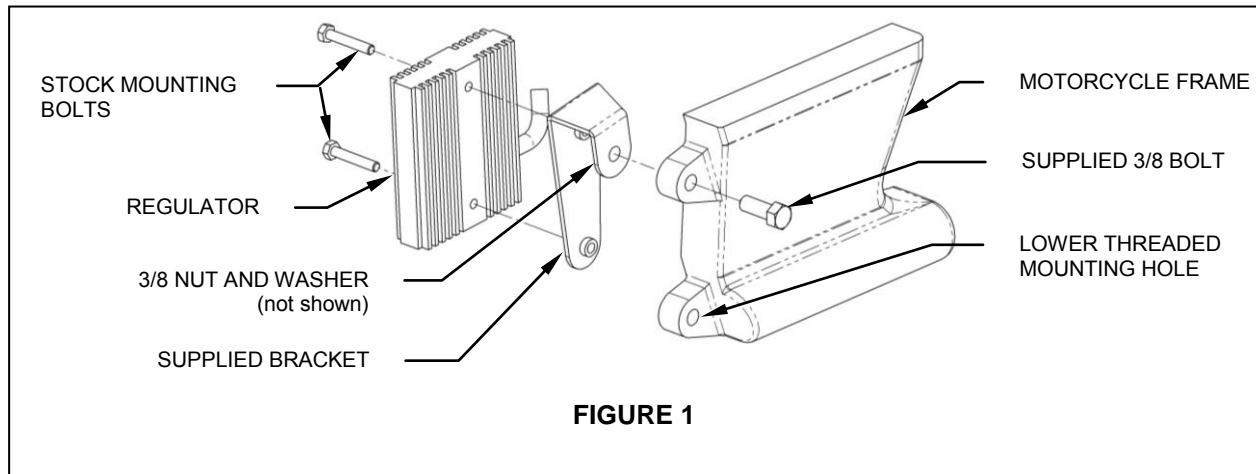

FIGURE 1
1. Remove your stock exhaust system and large muffler bracket. Remove regulator from stock exhaust bracket but leave wiring harness connected. Mount the regulator to supplied regulator bracket as shown in fig. 1. Use supplied 3/8" x 1" bolt to secure to frame using supplied washer and nut as shown in fig. 1.
2. Remove exhaust mounting bracket from the box. Line up bottom hole of mounting bracket with the threaded mounting hole on the frame (refer to fig. 1) and install supplied 10mm fine thread bolt and 10mm spring washer but do not tighten. **Note:** Make sure 10mm bolt threads into frame prior to installation to avoid damage to threads.